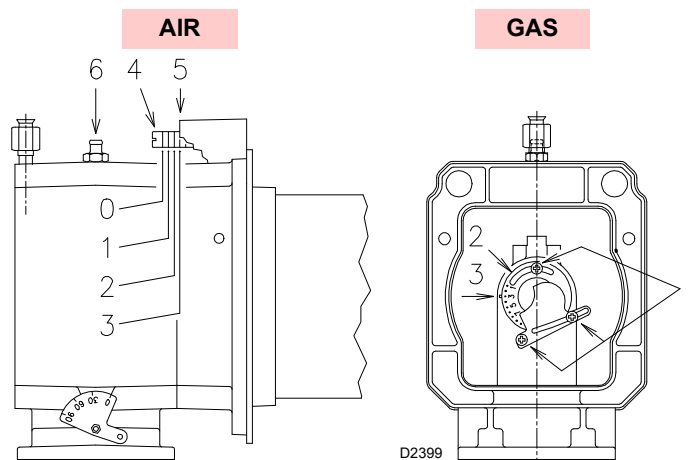
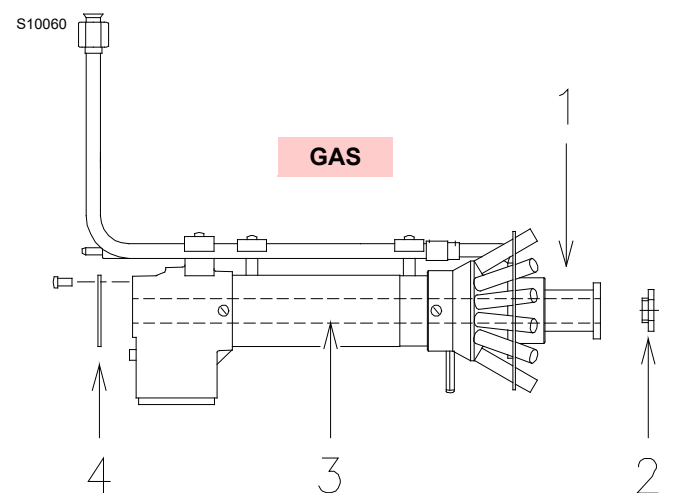
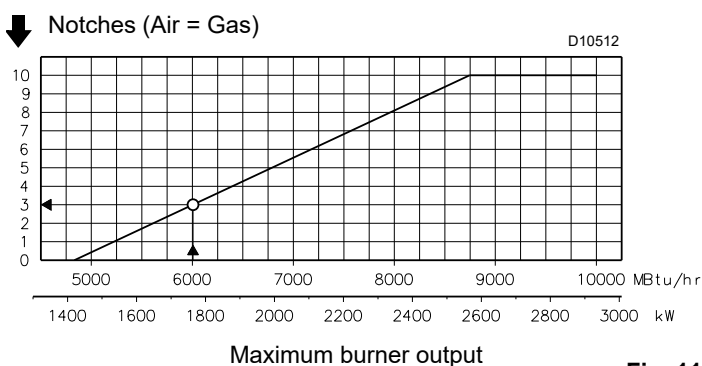

Fig. 9
Fig. 10
Fig. 11
Installation operations are now at the stage where the blast tube and sleeve are secured to the boiler as shown in Fig. 9 and Fig. 10.
In diagram (Fig. 11) find the notch to use for adjusting the air and the gas.
Turn screw 4)(Fig. 9) until the notch identified is aligned with the front surface 5) of the flange.
When the burner is installed for a maximum output ≤ 5726 MBtu/hr unscrew and remove the front part 1)(Fig. 10). Replace it with the supplied cap 2), after removing the inner pipe 3). Replace the disc 4) with the supplied disc without hole. If there is low gas supply pressure, the head may be left in standard configuration, limiting the minimum modulation to 1980 MBtu/hr.
Loosen the 3 screws 1)(Fig. 9) and turn ring 2) until the notch identified is aligned with index 3).
If we consult diagram (Fig. 11) we find that for this output, air must be adjusted using notch 3 (Fig. 9).
Diagram (Fig. 11) shows the ideal settings for the ring 2)(Fig. 9).
If the gas main pressure is too low to reach the maximum output operation pressure indicated on page 20, and if the ring 2)(Fig. 9) is not fully open, it can be opened wider by 1 or 2 notches.
Continuing with the previous example, page 20 indicates that with output of 6000 MBtu/hr a pressure of approximately 3.15 "WC is necessary at test point 6)(Fig. 9).
If the pressure cannot be reached, open the ring 2)(Fig. 9) to notch 4 or 5.
- combustion head adjusted as indicated in diagram, (Fig. 11, page 16).